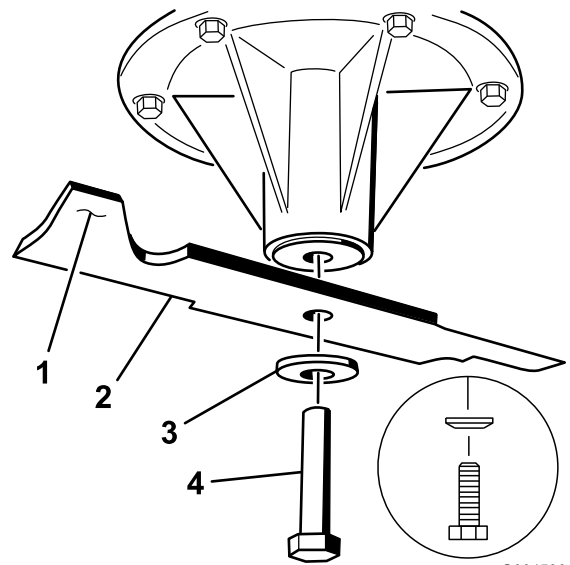

Figure 103
1. Install the blade onto the spindle shaft (Figure 103).
2. Install the spring disk and blade bolt (Figure 103).
**Note:** Install the spring-disk cone toward the bolt head (Figure 103).